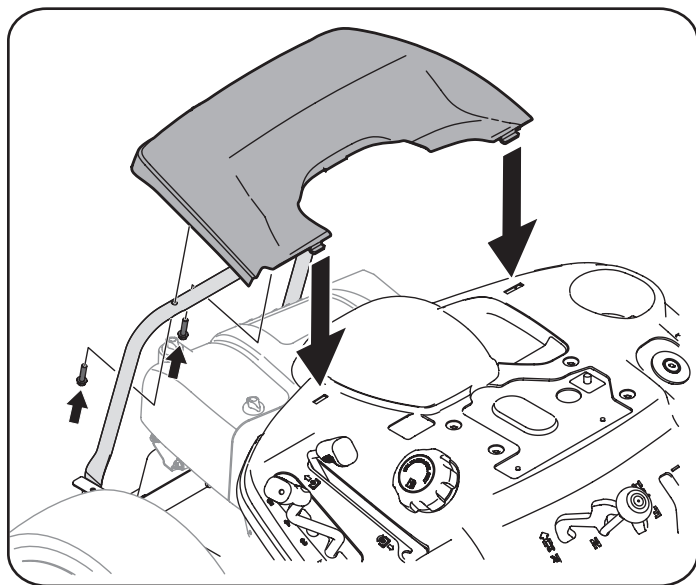

Figure 11
1. Remove the two factory installed hex screws located on the rear engine cover mounting bracket. Retain the screws for later instructions. See Figure 11.
2. Install the rear engine cover by positioning it in place as shown in Figure 11. Tip the engine cover forward to fit it into the slots provided, then rotate it backwards to align the mounting holes.
2. Remove the plastic cover, if present, from the positive battery terminal and attach the red cable to the positive battery terminal (+) with one of the hex bolt and hex nuts, using a 7/16 inch wrench and socket wrench. See Figure 11.